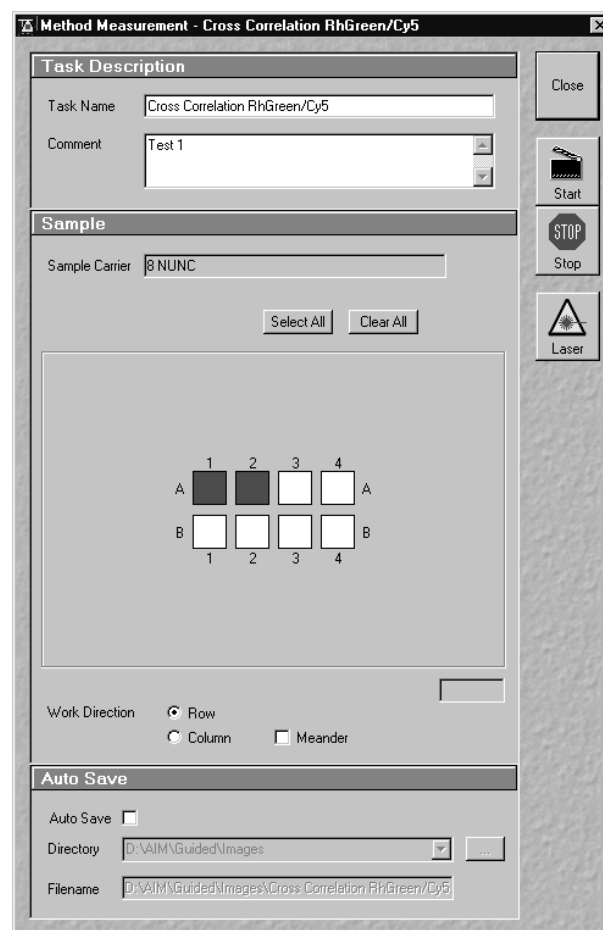

Fig. 3-19 Method Measurement ... window
- Click the **Measure Method** button in the **Analyse** toolbar subordinate of the **Main** menu. The **Method Measurement ...** window will appear on the screen (Fig. 3-19). The name of the currently used method will appear in the status bar of the window.